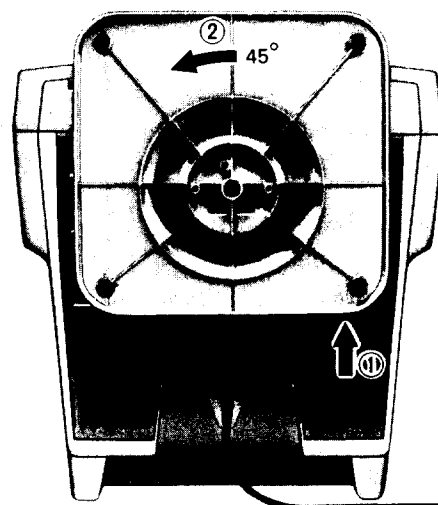

Figure 15
- Slide the swivel up. (Figure 15)
- Turn the swivel 45° counter-clockwise. (Figure 15)